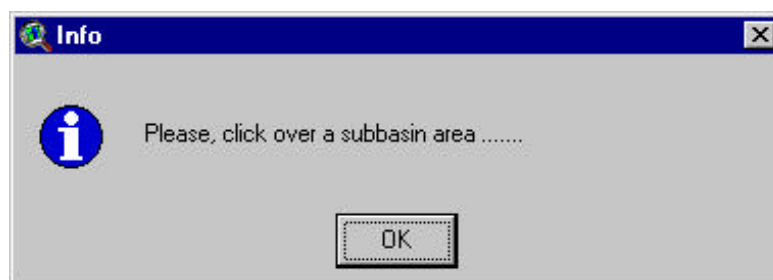

Figure 4.24
- i. If the mouse cursor was located outside the watershed when right clicked, a message box will be displayed (Figure 4.24).